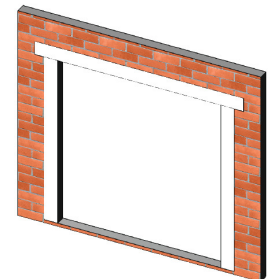

Figure 17:
3. Finally, at the head, embed the flashing into the sealant on the mounting flange and fasten into place. The flashing paper should be cut sufficiently long enough to extend past the flashing paper at each jamb by at least 3 in (Figure 17).